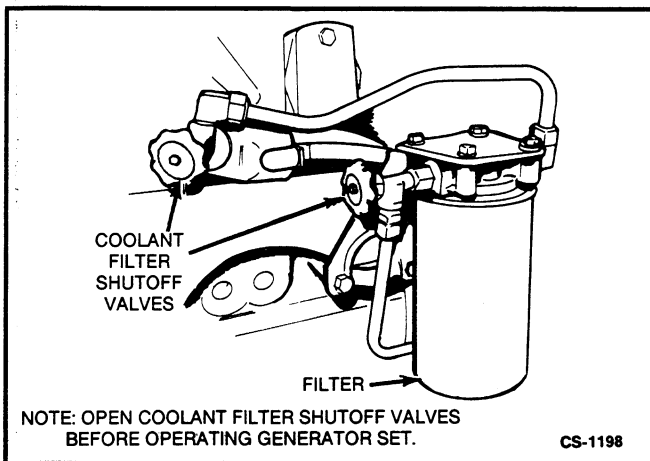

FIGURE 5-9. TYPICAL COOLANT (CORROSION) FILTER
**Coolant Filter:** Spin-on type corrosion filters are standard equipment (see Figure 5-9). These precharge filters are compatible with plain water and all ethylene glycol base permanent antifreeze coolants. Refer to engine manual for instructions if a methoxy propanal base antifreeze is desired. Replace filter periodically as recommended in *Maintenance* section.